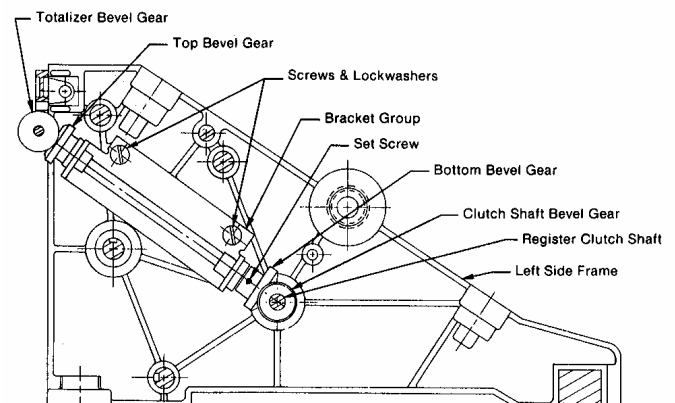

Figure 29. Inside Left Side Plate of Meter Register
- If required, install new bracket group to inside of left side frame and secure with two screws and lock-washers. See Figure 29.
5. Gearing Adjustment for Totalizer. See Figure 29.